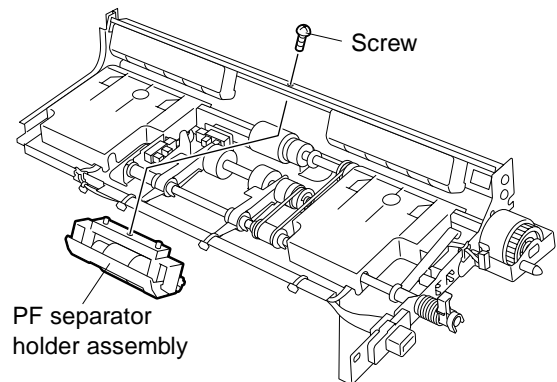

Fig. 6-19
3. Remove PF separate holder assembly. (See Fig. 6-19)